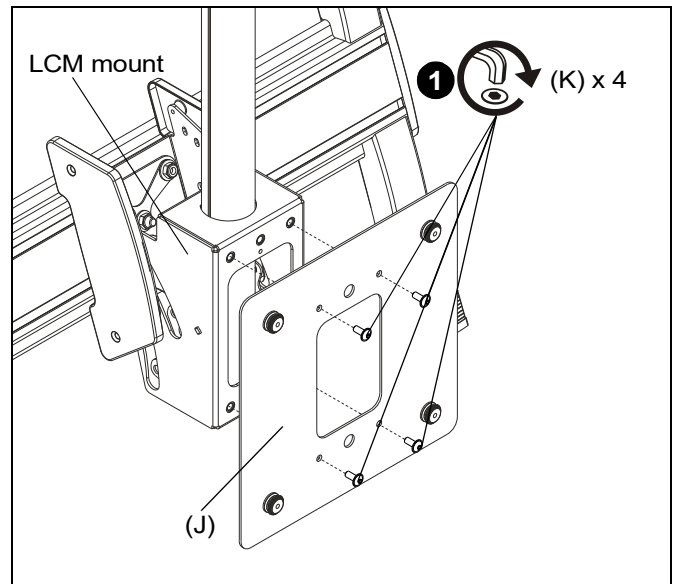

Figure 12
1. Use four 5/16-18 x 3/4" button head cap screws (K) to secure LCM upright adapter (J) to back of LCM mount. (See Figure 12)